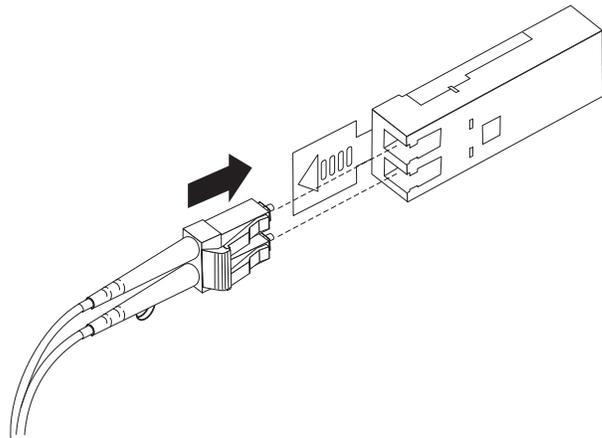

Figure 29. Inserting an LC-LC fibre-channel cable into an SFP module
4. Carefully insert this end of the LC-LC cable into an SFP module that is installed in the EXP100. The cable connector is keyed to ensure it is inserted into the SFP module correctly. Holding the connector, push in the cable until it clicks into place, as shown in Figure 29.